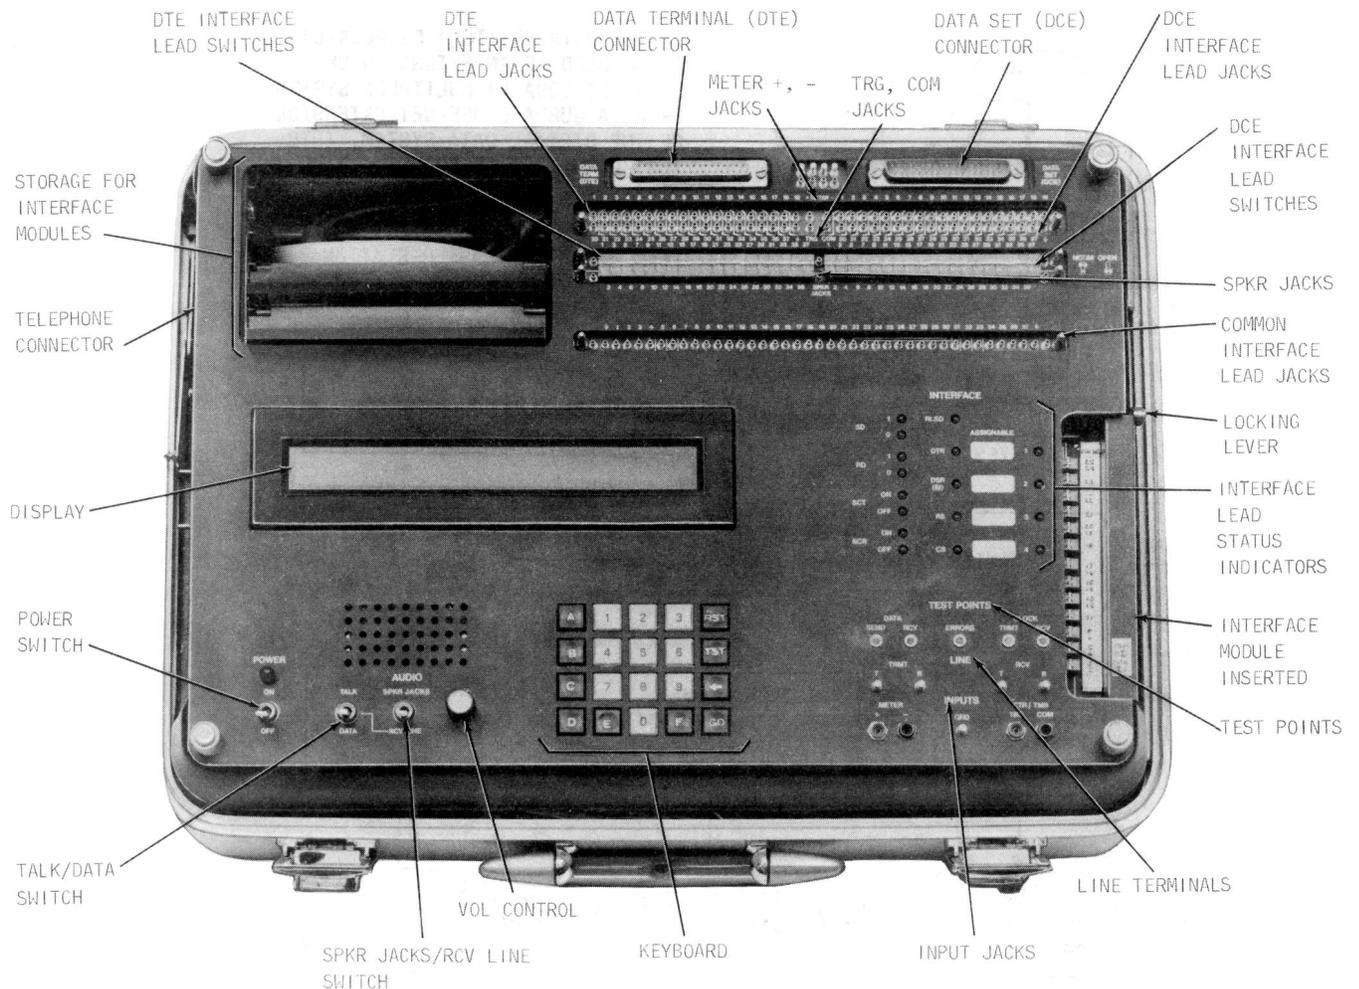

Fig. 1—921A Data Test Set—Front Panel
1.06 The 921A DTS (Fig. 1) is a portable, general purpose data test set that provides the serial testing capabilities of the 914C DTS and is compatible with the 914C for the testing of serial data sets. The 921A DTS also provides additional testing capabilities that are described in Section 107-402-100. Input to the 921A DTS is made through a 20-button keyboard. A 32-character display provides operator prompting and test results.